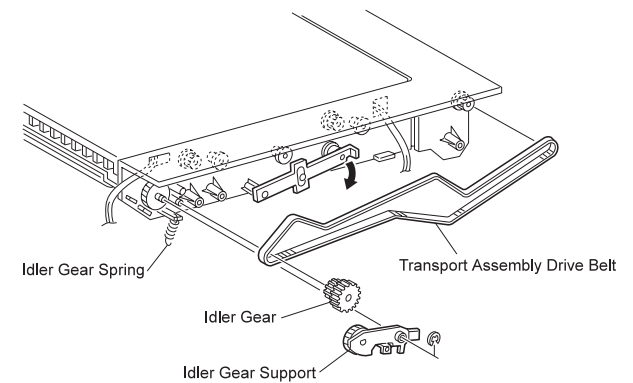

Figure 2
8. Remove two screws securing the Tension Bracket to the Transport Frame and remove the Bracket. (Figure 2)